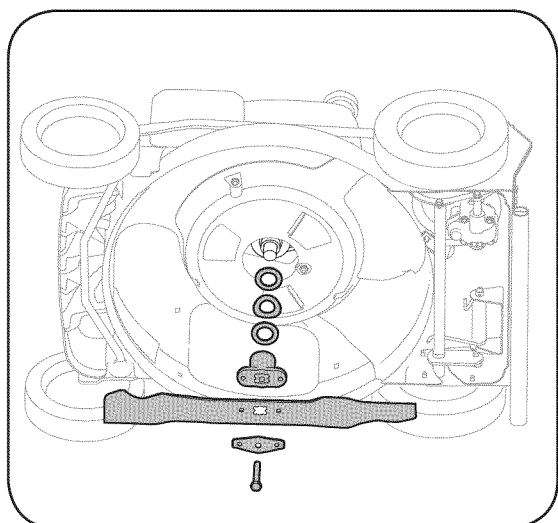

Figure 5-12: Reinstall the remaining hardware.
- Lightly lubricate the inside of the blade adapter and reinstall the washers, blade adapter, blade, and blade bell support in the correct order, Figure 5-12 (Refer to Blade Care section). Tighten the hex bolt to 450-600 in. lbs. torque.